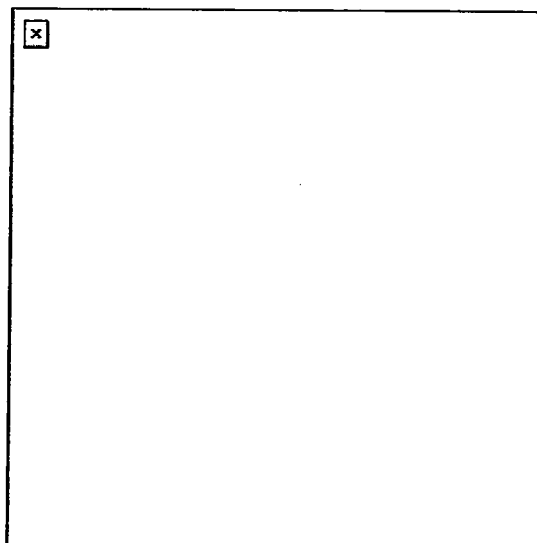

Figure 5. Windage and elevation (peep sight) correction chart.
- a. Adjust the sights for deflection. Determine if the center of the beaten zone is left or right of the target. Adjust the windage knob forward to move it to the right, or adjust it rearward to move it to the left (Figure 5).
- b. Adjust the sights for elevation. Determine if the center of the beaten zone is above (high) or below (low) the point of aim. Rotate the peep sight clockwise to lower it, or counterclockwise to raise it (Figure 5).